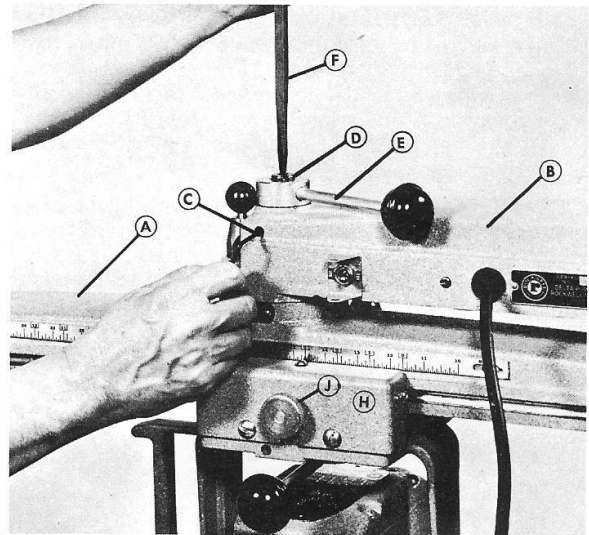

FIGURE 4
Check over-arm and track-arm for "play", see Fig. 4. Lock clamp handle (E). If track-arm "sags" when cutting head moves along track-arm, this means track-arm clamp handle (E) is not properly locking track-arm (A) rigidly against over-arm (B).
1. Remove cover (H) Fig. 4, on right side of track-arm.